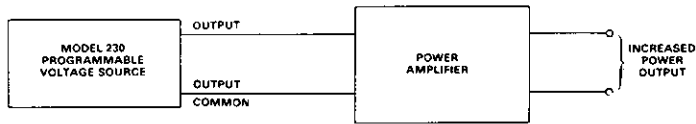

Figure 2-5. Using the Model 230 with a Power Amplifier
**Example 8 - Using a Power Amplifier**—The Model 230's maximum output power is  $100\text{mA} \times 100\text{V} = 10\text{W}$ . This power is sufficient for most applications of the Model 230. There are times however, when an increase in output power is required. In these applications the Model 230 can be used in conjunction with a power amplifier to increase the output power. The maximum output the Model 230 along with a power amplifier is  $100\text{W}$ . Refer to Figure 2-5.